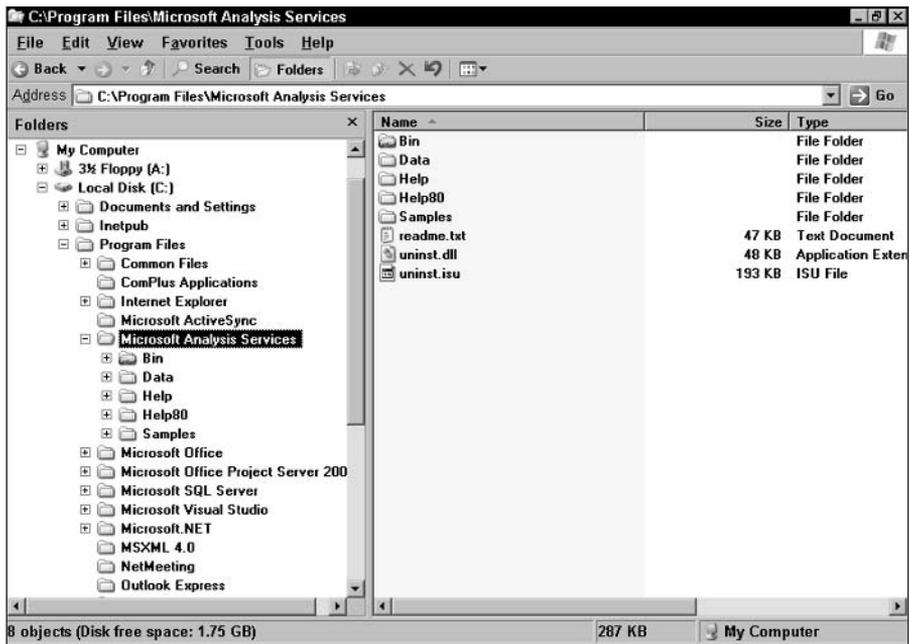

Figure 19-54: Use Windows Explorer to find the Bin folder.
2. Browse the folders until you are viewing the contents of the `\Program Files\Microsoft Analysis Services` folder (see Figure 19-54).